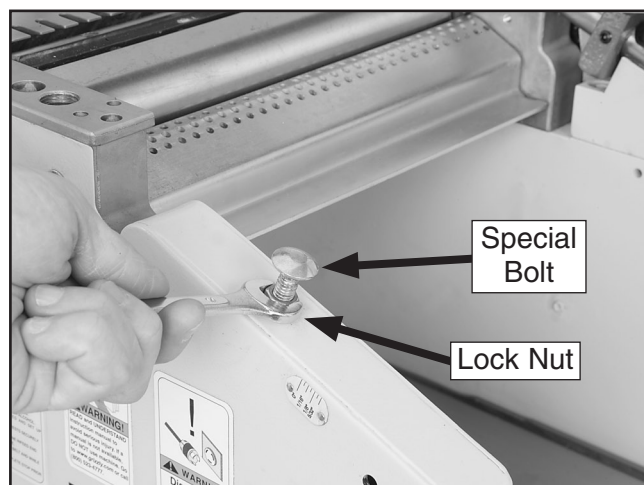

Figure 72. Table lock lever bolt.
4. Loosen the lock nut on the special bolt under the table, as shown in **Figure 72**.